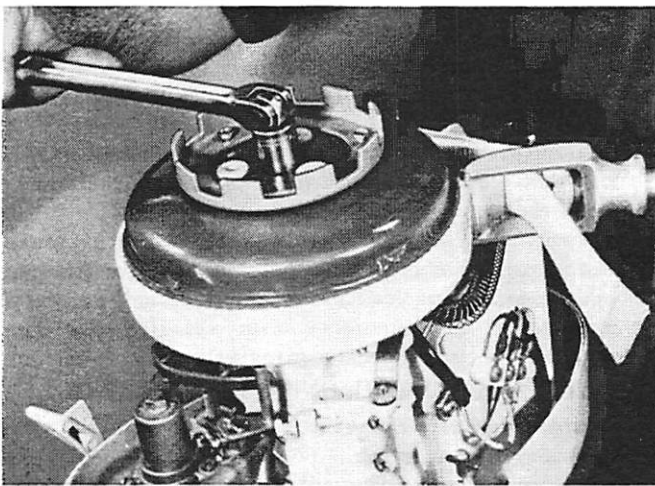

Figure 19. Removing Flywheel Nut
1. Remove nut which fastens flywheel to crankshaft. (Figure 19)